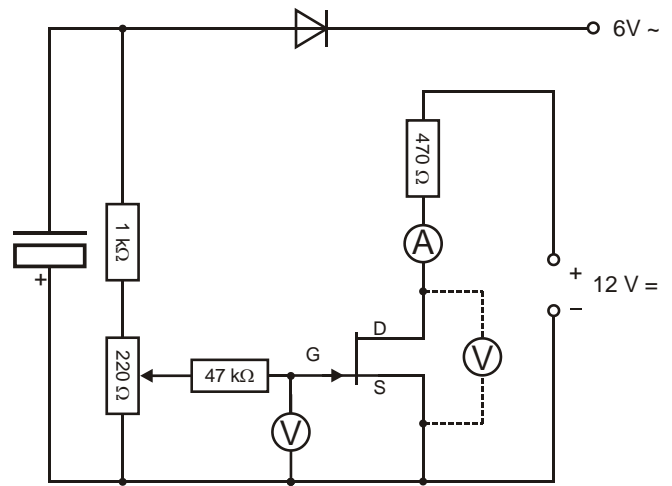
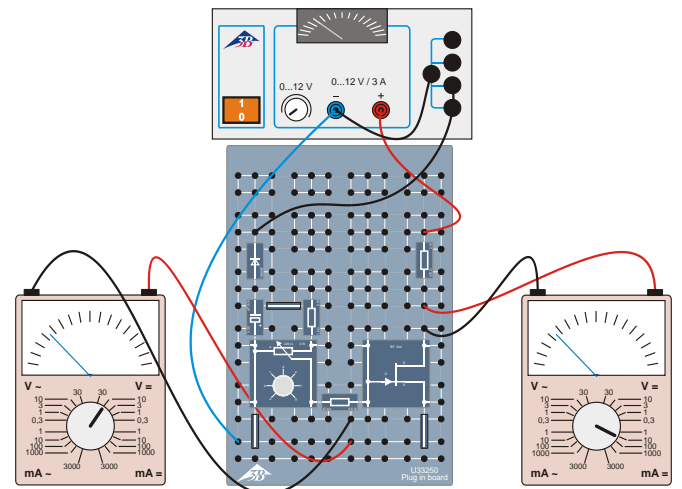

Fig. 2: Sketch of circuit.
Fig. 3: Voltmeter between gate and source.
- Set up the circuit as shown in Fig. 2 and Fig. 3. Make sure you get the correct polarity for the silicon diode and capacitor.
- Initially connect up the analogue multimeter so that you can measure the voltage between the gate and source. Connect the negative pole to the gate (Fig 3).